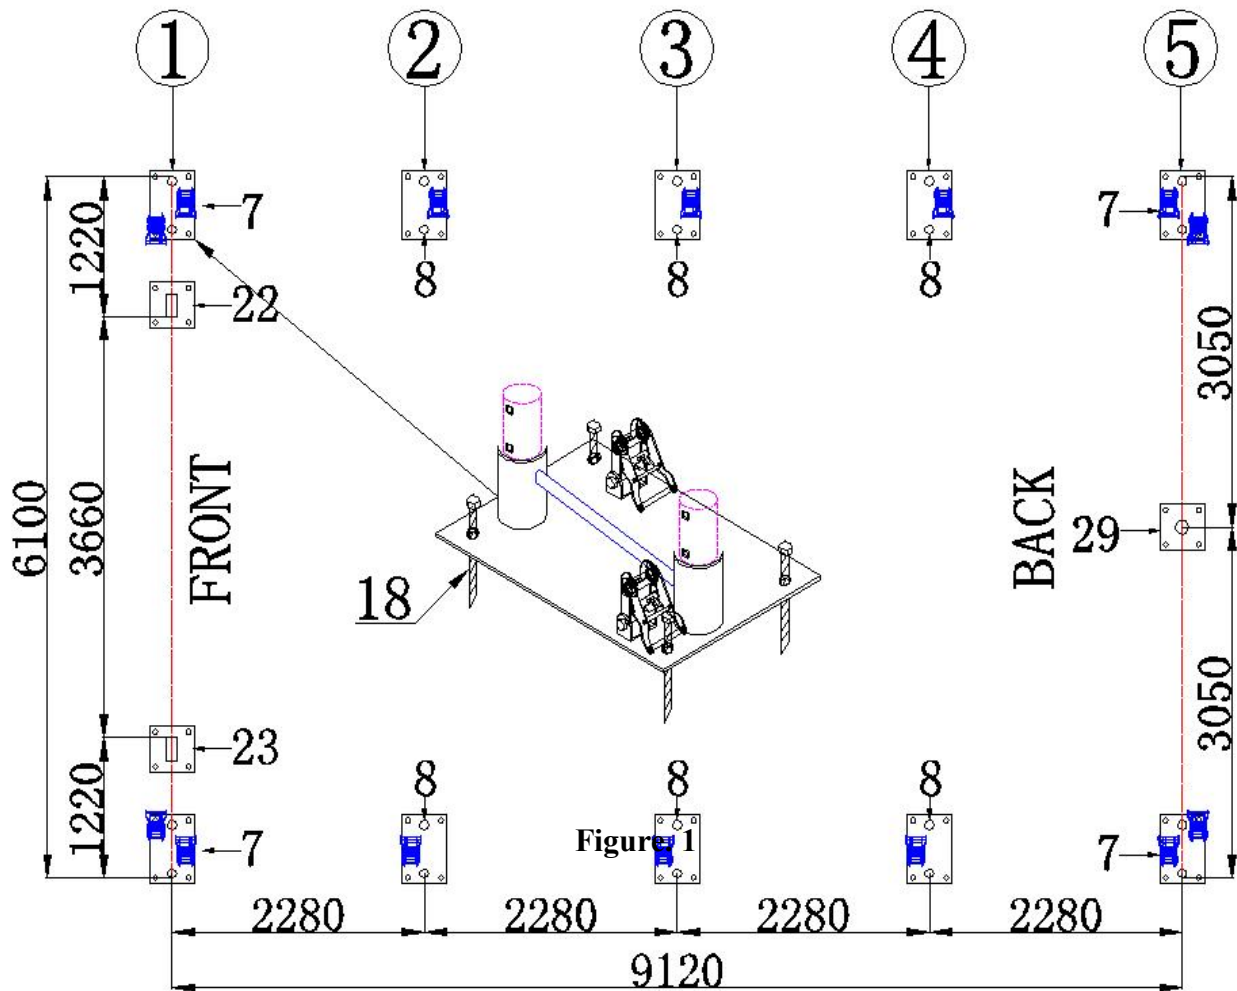

Figure.1
1. Please refer to the diagram (Figure 1) to mark the position of base plates.